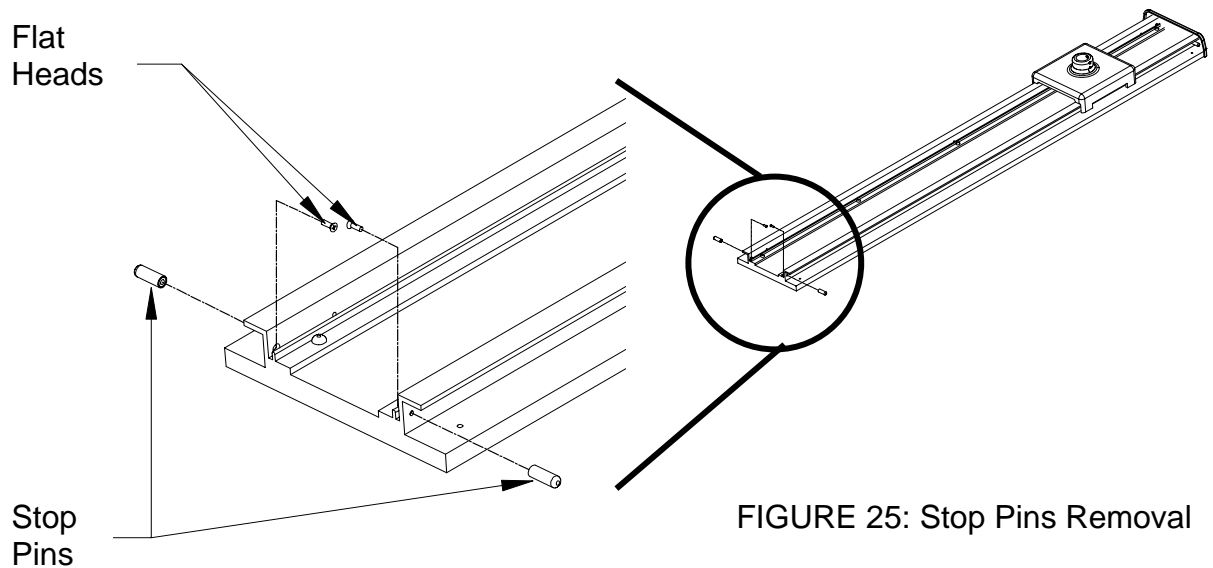

FIGURE 25: Stop Pins Removal
- Remove the two stop pins P/N 1001076 and the #6 flat head screws P/N 0001155 holding the pins in place from the track end with the end plate already removed. See figure 25.